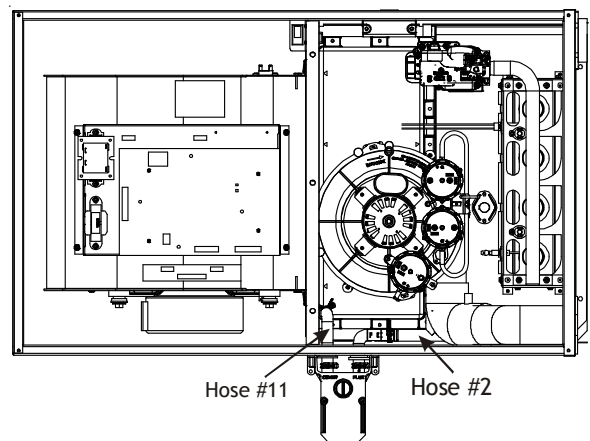

Figure 23
1. Locate and Install the 45° pipe / hose drain coupling from the outside of the cabinet (barbed end goes in the cabinet) through hole in the right side of the cabinet and secure with two field supplied #8 self-tapping screws (see Figure 23).
1. Install the 45 degree pipe / hose drain coupling from the outside of the cabinet (barbed end goes in the cabinet) through the hole in the left side of the cabinet and secure with two field supplied #8 self-tapping screws (see Figure 23).